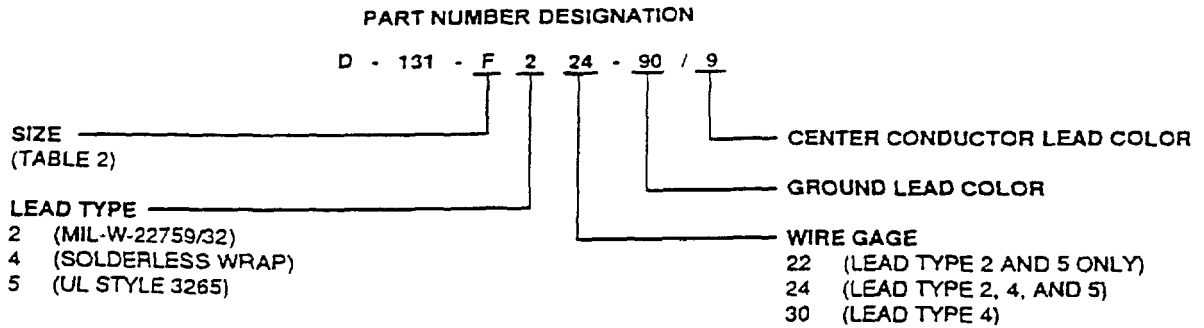

Figure 8 . Low Temperature Coaxial Cable Termination Part Number Breakdown
22. **Low Temperature Part Number Breakdown.** (Figure 8) provides the part number breakdown for the Series D-131 low temperature coaxial cable solder sleeve terminations.